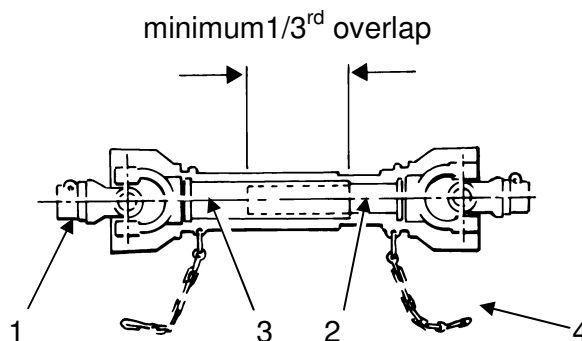

Figure 1
Part the two ends of the shaft and fit the end with the over-run clutch (item 1, figure 1) to the Flail Topper gearbox. Attach the other end to the tractor. The male shaft (item 2 figure 1) and female shaft (item 3, figure 1) can now be measured alongside each other. Cut the surplus length equally from both male and female drive tubes and guards.
Grease the shafts to enable them to move correctly when in work. Reassemble the shaft and check the PTO shaft does not foul any part of the machine or tractor. Inspect all guards to make sure they are fitted correctly and are not damaged. Finally, attach the safety chains (item 4, figure 1) to secure points on the tractor and machine ensuring that the chains will not overtighten when the machine is raised.